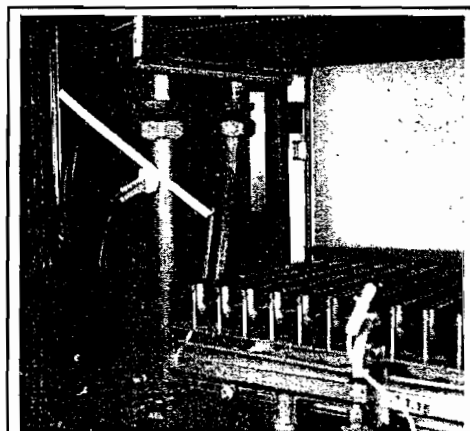

Fig. 78
- (c) Unclip boiler thermostat sensing bulb from heating return pipe (on left side of boiler). Fig.78. Push sensing bulb down through rubber grommet in bottom of sealed chamber.